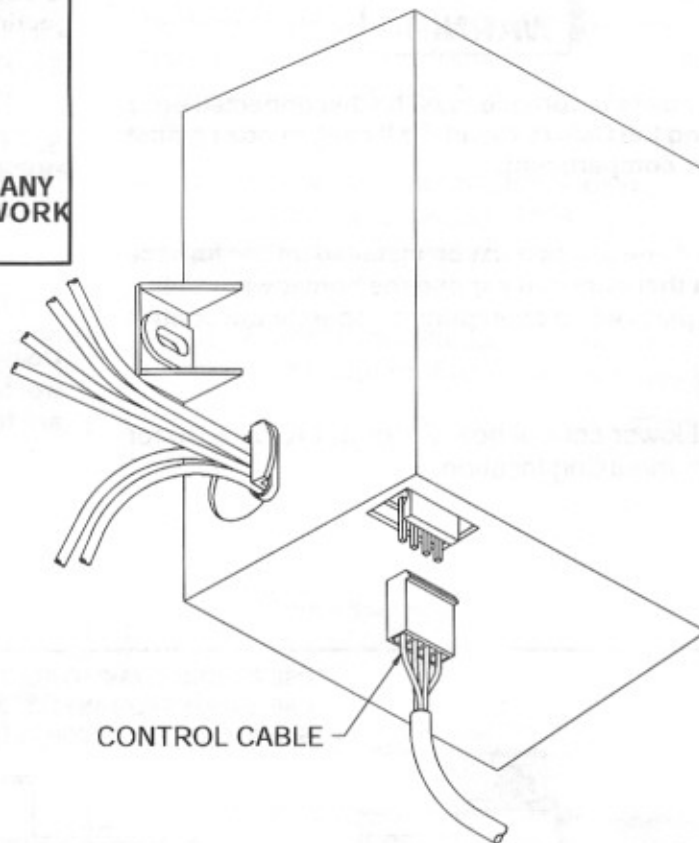

Figure 11 - Control Cable Connection
2. Plug the control cable into the lower control box. (See Figure 11.)